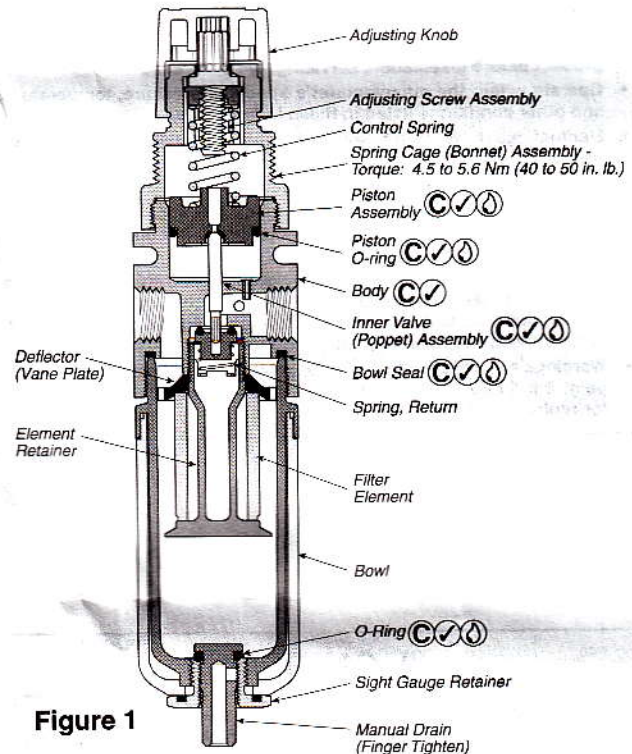

Figure 1
Servicing Filter Element - (Refer to Figure 1)
Servicing Regulator - (Refer to Figure 1)
9. Install Piston Assembly into Body Assembly. Assemble Bonnet Assembly onto Body and tighten per Figure 1.